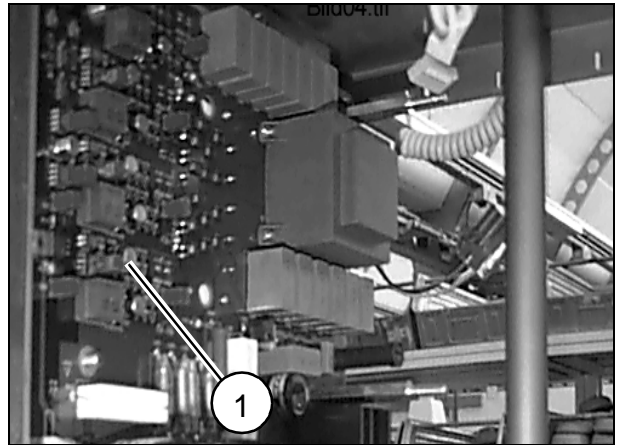

Fig. 4
- Unscrew the board from the heat sink (1/Fig.4).